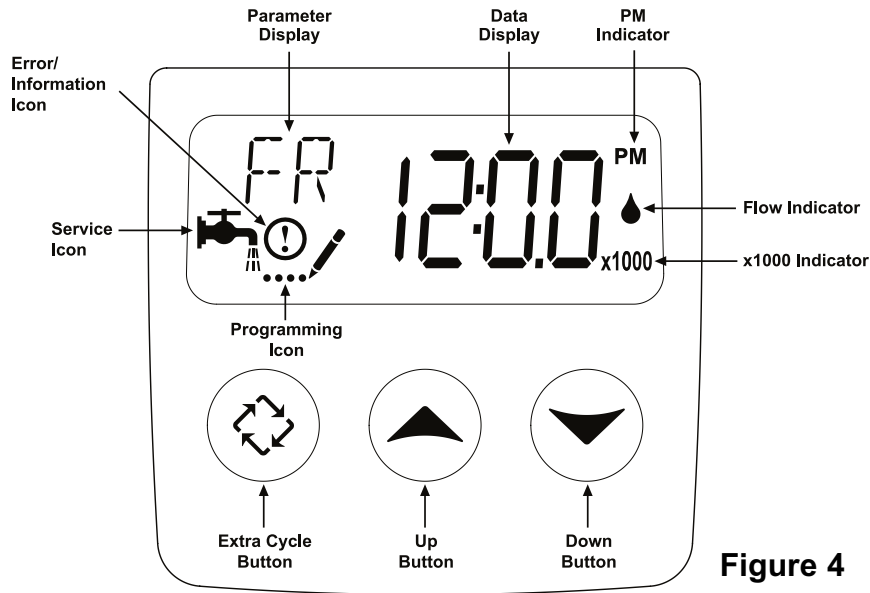

Figure 4
8. Plug the 24-volt transformer into a 120 VAC 60 Hz outlet. This valve has four positions: 1) Backwash 2) Brine/Rinse 3) Rapid Rinse and 4) Brine Refill. When the valve is in the Service position, the *extra cycle* button (far left button as shown on Figure 4) must be pressed and held for 5 seconds before it activates. Press and hold the *extra cycle* button for 5 seconds to advance the valve into the "1" Backwash position. Slowly turn on the water supply and allow the unit to backwash until the air purges out of the tank and clears the system.